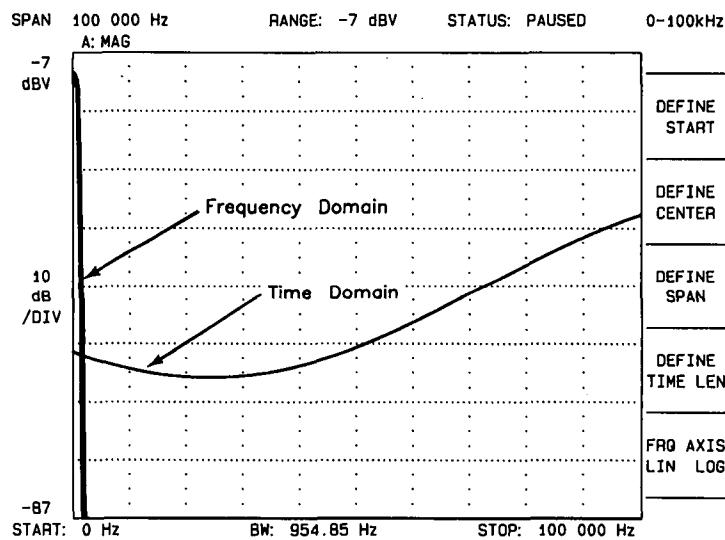

Figure 1–2. HP 3561A Display Showing Low Frequency Beatnote in Frequency and Time Domains
1. Look at the HP 3561A Dynamic Signal Analyzer and observe the beatnote signal being displayed. You should see the HP 3561A simultaneously display the beatnote in the frequency domain and the time domain, as shown in Figure 1–2.